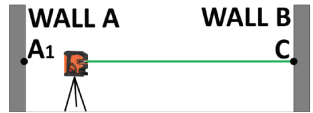

Figure 20
2. Rotate laser 180°. Mark beam height on Wall B as point C. (Figure 20)